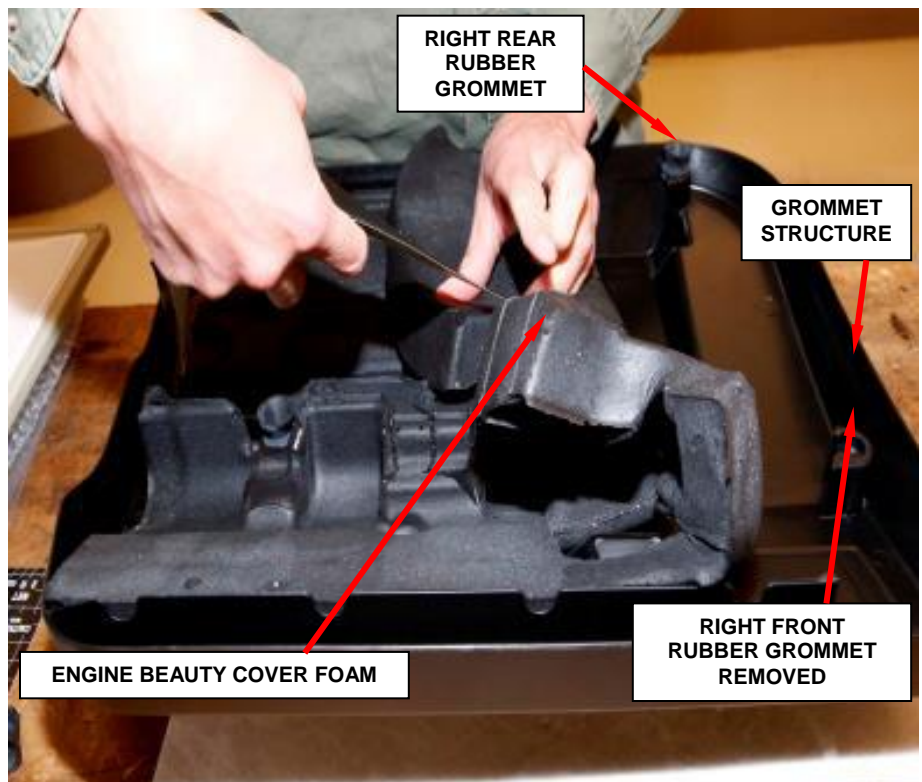

Figure 2 – Grommet Structure
4. Place the engine beauty cover on the topside then remove and discard the existing right front rubber grommet from the grommet structure (Figure 2).
5. Pull back the engine beauty cover foam to access the right front grommet structure (Figure 2).
NOTE: To assist steps 6 through 11, tape the foam out of the way (Figure 2).